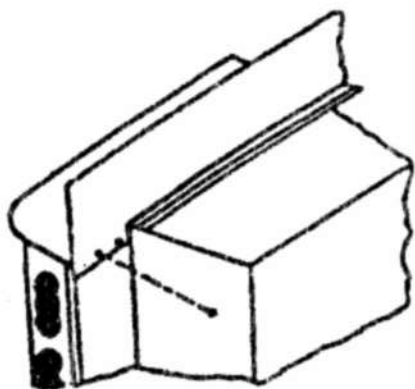

Figure 4
2. Using the Tek drill screws provided, attach the upper trim panel to the stove and fasten securely. (See Figure 4)